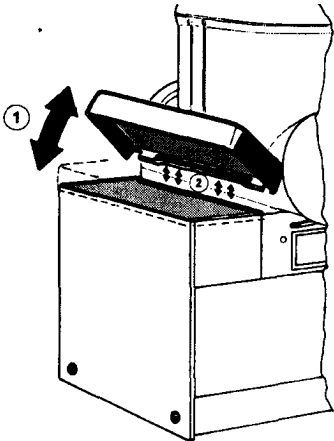

figure 6
- 2 - On MT 1 P model remove the lateral tray by lifting its outer side up and off the hook located on the opposite side (see figure 6).
- 8 - On MT 1P model install the lateral tray by reversing the disassembly steps (see figure 6).